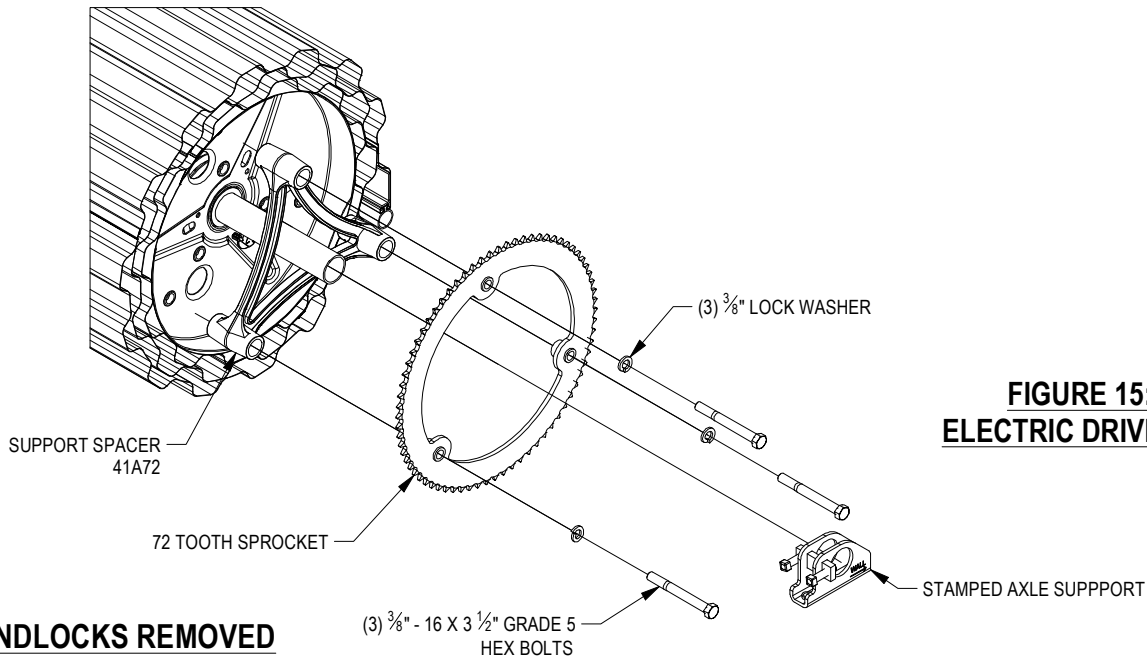

FIGURE 15:
- Attach Support Spacer and Sprocket to drum using (3) $\frac{3}{8}$ " lock washers and (3) $\frac{3}{8}$ " - 16 x 3- $\frac{1}{2}$ " Hex bolts.
- Tighten $\frac{3}{8}$ " - 16 square head set screws when in place. See Figure 15.